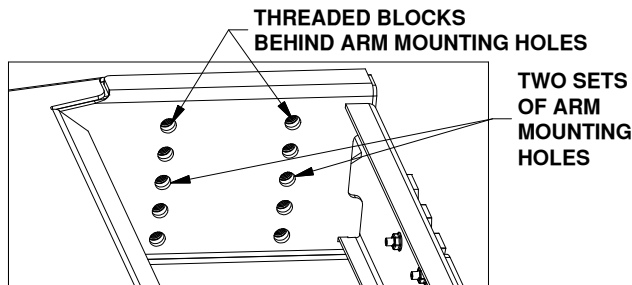

Figure C3: Looking inside the slider carriage.
3. **Inspect threaded blocks.** Behind each set of arm mounting holes, inside the carriage is a threaded block. If the blocks shifted during shipping and the threaded holes are not aligned with the holes in the carriage, try using a screwdriver or similar tool to align the blocks, see Figure C3. If a block cannot be aligned through the carriage holes, see the notice below.